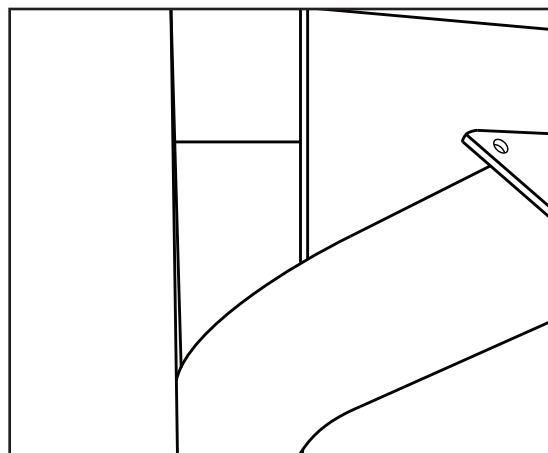

Figure 5
- 3-3 Carefully lift the console/upper mast weldment out of the box and place to the side (see Figure 5).